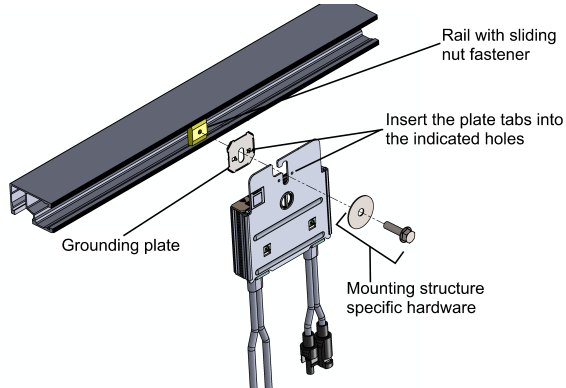

Figure 4: Power Optimizer installation and grounding using a grounding plate
- For mounting on rails with sliding nut fasteners:** If the star washer cannot be used, use the SolarEdge grounding plate (purchased separately) between the railing and the flat side of the mounting bracket. Use mounting specific hardware as needed. Apply a torque of 9.5 N*m / 7 lb*ft. See *Figure 4*.